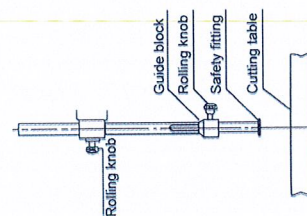

Fig. 6
1. Depends on thickness of materials, rotate rotary button to adjust guide block and protection device to the lowest position (Fig. 6).